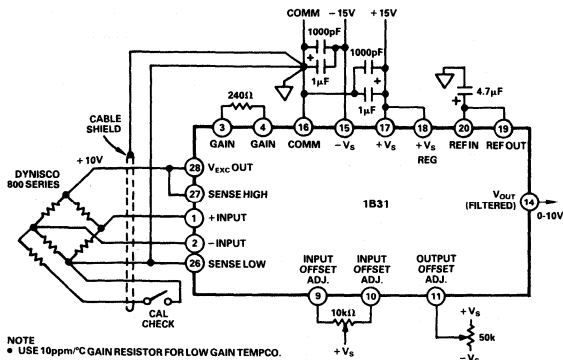

Figure 16. Pressure Transducer Application
**Pressure Transducer Interface:** A strain gage type pressure transducer (Dynisco 800 series) is interfaced to a 1B31 in Figure 16. Regulated excitation of  $+10\text{V}$  dc is provided for a  $30\text{mV}$  full-scale output. The gain is set at 333.3 to achieve a 0-10V output for a 0-10,000 psi range of the transducer. A shunt calibration resistor is built into the transducer for easy verification of the 80% point of its full-scale output. A typical shielding scheme to preserve the excellent performance characteristics of the 1B31 is also shown. To avoid ground loops, signal return or cable shield should be grounded only at one point.